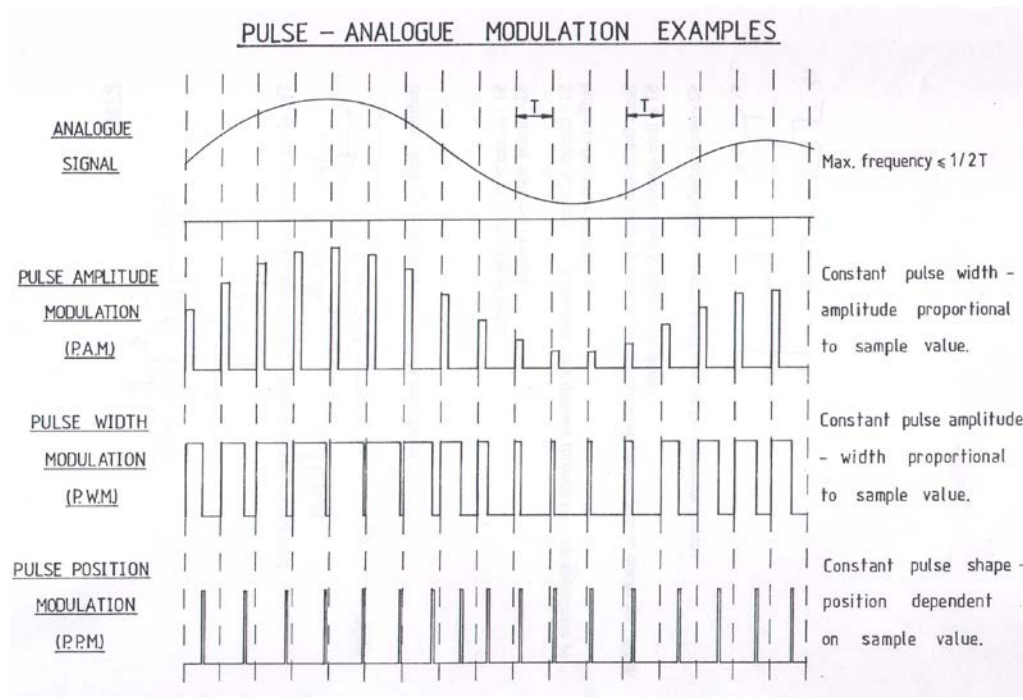

Figure 1 Illustration of Pulse Analogue Modulation
In PAM there are three possible parameters that can be changed: (1) amplitude resulting in PAM (Pulse Amplitude Modulation), duration giving PWM (Pulse Width Modulation) and position giving PPM (Pulse Position Modulation). Since PWM and PPM relate to the time axis they are usually referred to as Pulse Time Modulation. See Figure 1 for the different types of PAM.
1. In PAM: the modulated pulses have a fixed width, but the amplitude varies in proportion to the value of the sample of the signal at that instant in time. As shown in Figure 1.